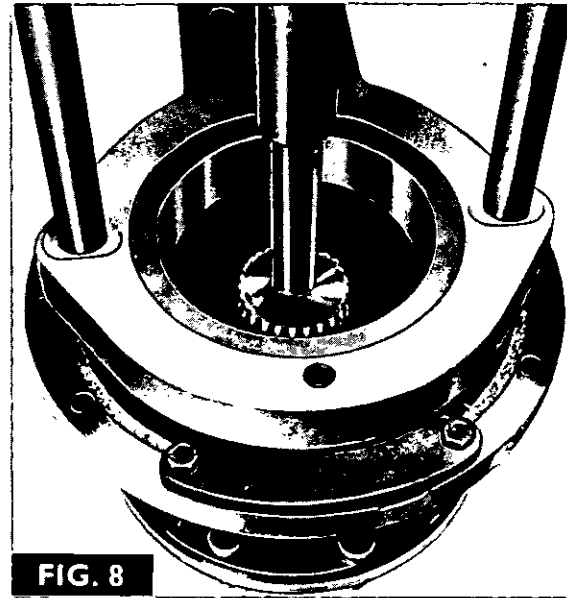
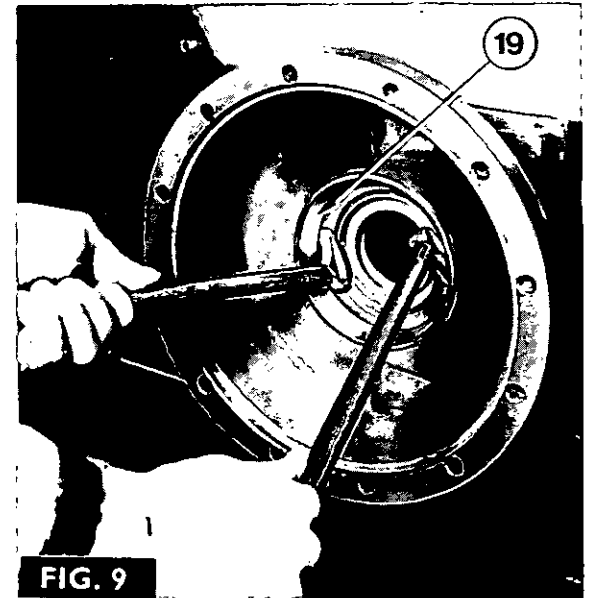

FIG. 8
FIG. 9
7. Fig. 8. Remove the two half rings (11) from the groove in the wheel axle (7) then press the wheel axle out of the outer housing (12) using hand press MF200 and adapter MF200-2/1 as shown. Lift out the bearing cone (10).
8. Tap out the outer seal (8) from the outer housing, then tap out the bearing cup (10).
9. Having ensured that the parking brake is fully applied and that the transmission oil is no higher than NORMAL on the dipstick, carefully withdraw the axle shaft (21).
10. Fig. 9. Using pry-bars as shown, lever the epicyclic inner bearing cup (19) out of the trumpet housing.
4. Fig. 9. Lever the inner bearing cup (19) out of the trumpet housing, using pry-bars, as shown. Remove the old shims.